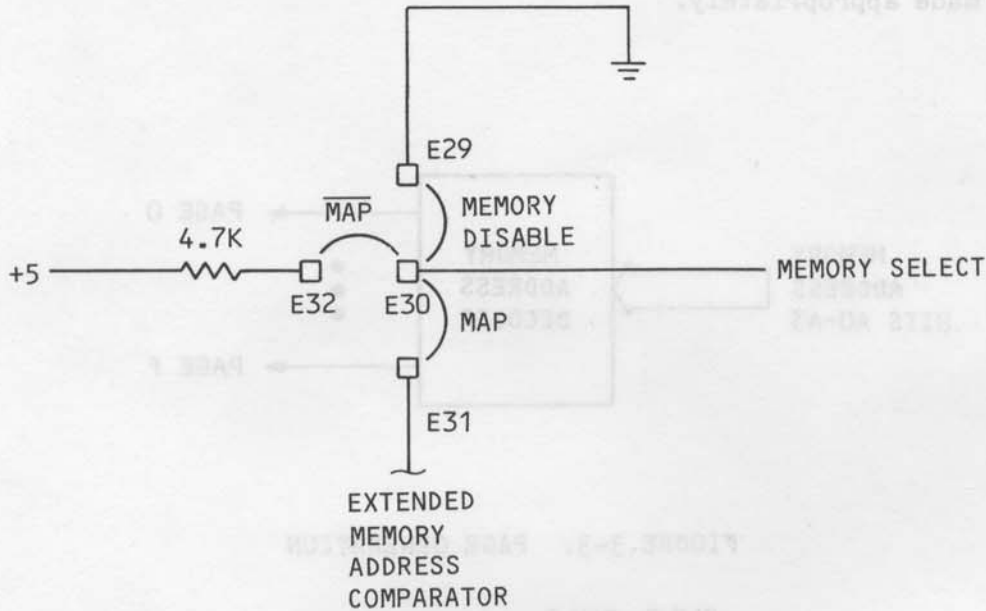

FIGURE 3-5. MEMORY EXPANSION OPTION JUMPERS
- b. Position a jumper plug on stake pins E30 and E32 on the TM 990/305 module to enable memory expansion onboard (See Figure 3-5).
Figure 3-5 shows the jumper connections that determine which of the three aforementioned options is implemented and Table 3-2 shows the jumper positions needed to execute each option.